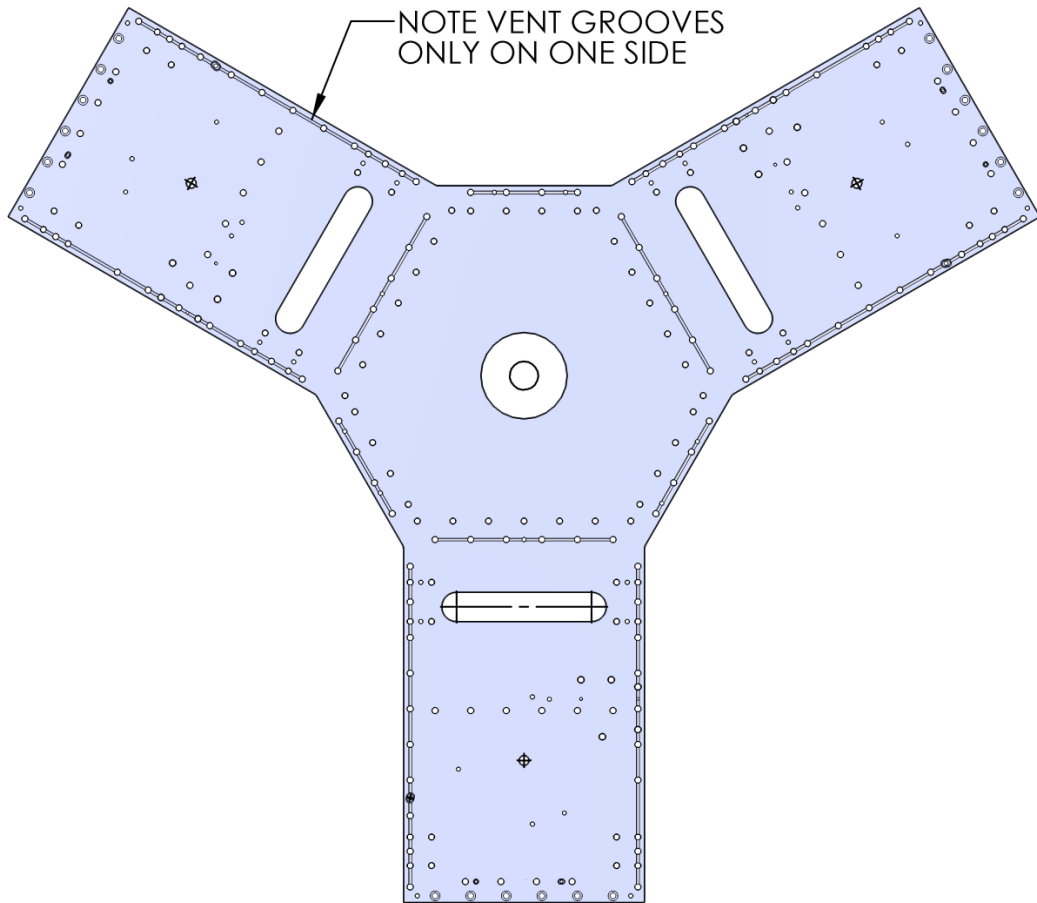

Figure 10
1. Install helicoils and dowels in locations shown Figure 10 and detail Figure 11 Dowels to be inserted on **non-grooved side**.